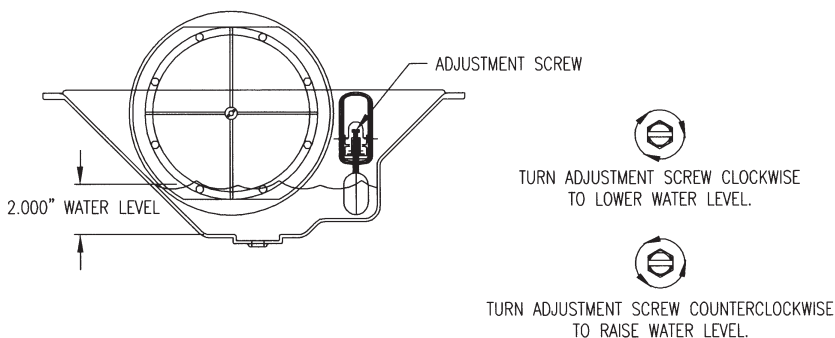

FIGURE 17: Water Level Adjustment for Model 86
4. Prior to mounting the pan on the duct, set the pan on a flat surface to check and adjust the water level to approximately 2" (5.08 cm), as shown in Figure 17 (page 15.).